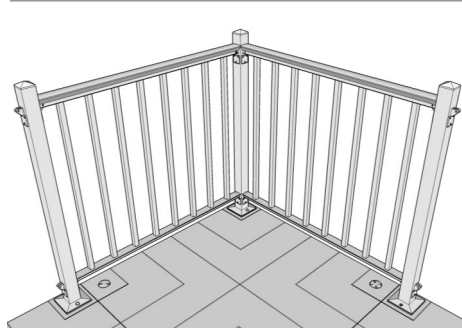

Fig. 51
24. Next, install another In-Line Post 40" from the Corner Post perpendicular to the first In-Line Post to create the a corner (Fig. 51).